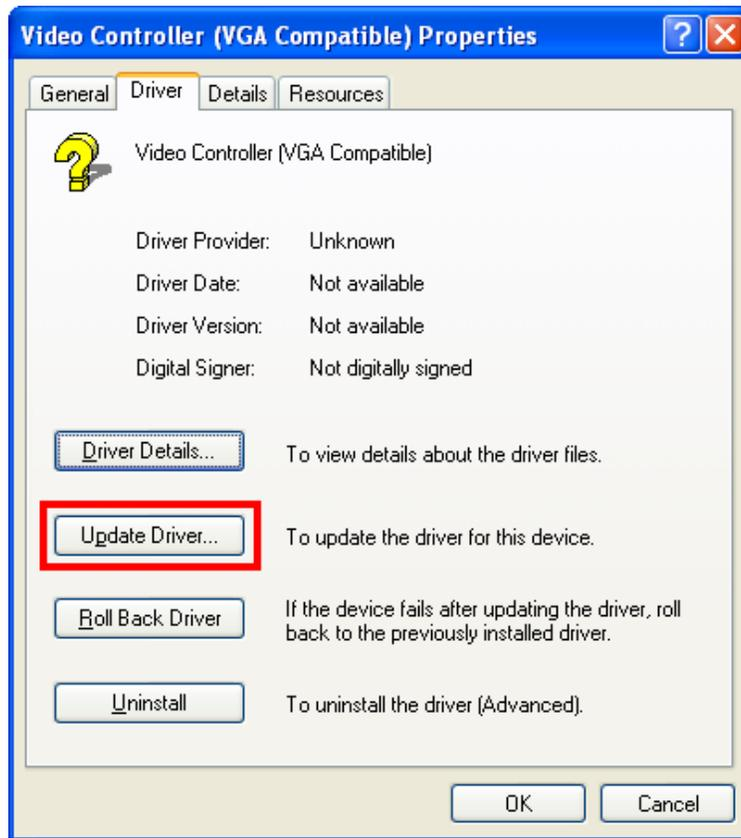

Figure 6-5: Video Controller Properties Window
Step 6: The **Video Controller Properties** window appears (Figure 6-5).